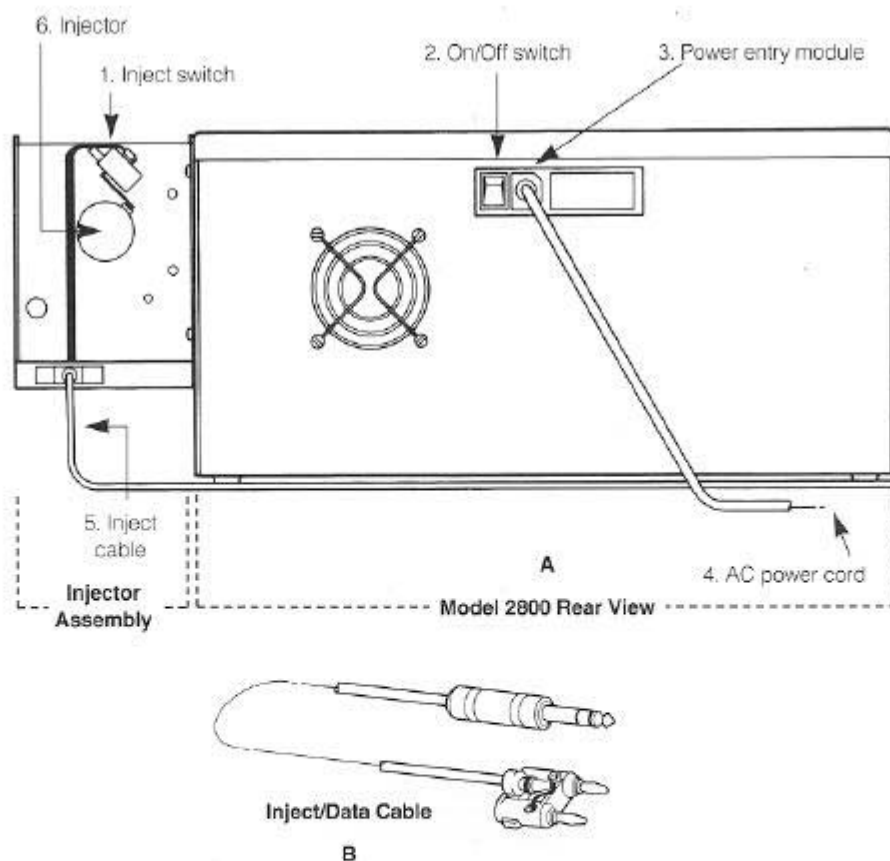

Fig. 2.2. Electrical connections.
1. Turn on the pump using the switch on the rear panel (Figure 2.2, item 2). The display should indicate Stop Flow and give a flow rate of 0 ml/min.